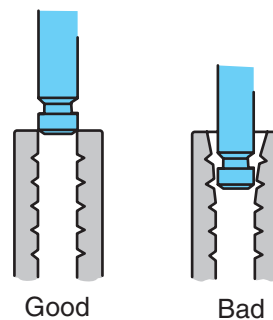

FIGURE 7.49 The guide on the right is worn too far for the knurling process to be effective.
- Check the guide before reaming it to be sure it is too small to allow the valve to fit. Try to fit a valve partway into each end of the guide after knurling. Be sure that the valve has had its stem tip chamfered on the valve grinder prior to this check. If the valve fits in partway into the guide, the guide is too worn for knurling to be effective (**Figure 7.49**).